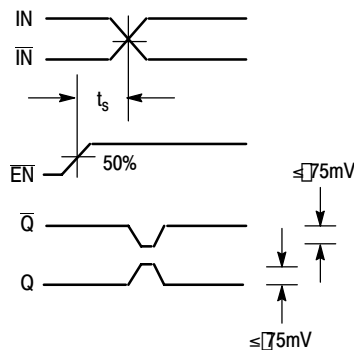

Figure 3. Setup Time
17. The setup time is the minimum time that \overline{EN} must be asserted prior to the next transition of IN/ \overline{IN} to prevent an output response greater than $\pm 75\text{ mV}$ to that IN/ \overline{IN} transition (Figure 3).